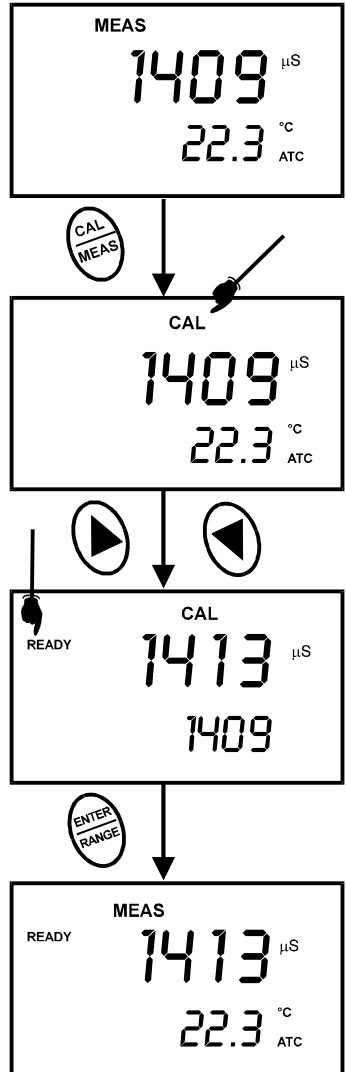

Figure 8 - Conductivity Calibration
- 3 Dip the probe into the calibration standard. Immerse the probe tip beyond the upper steel band. Stir the probe gently to create a homogeneous sample. See Figure 8.
- See Figure 8.